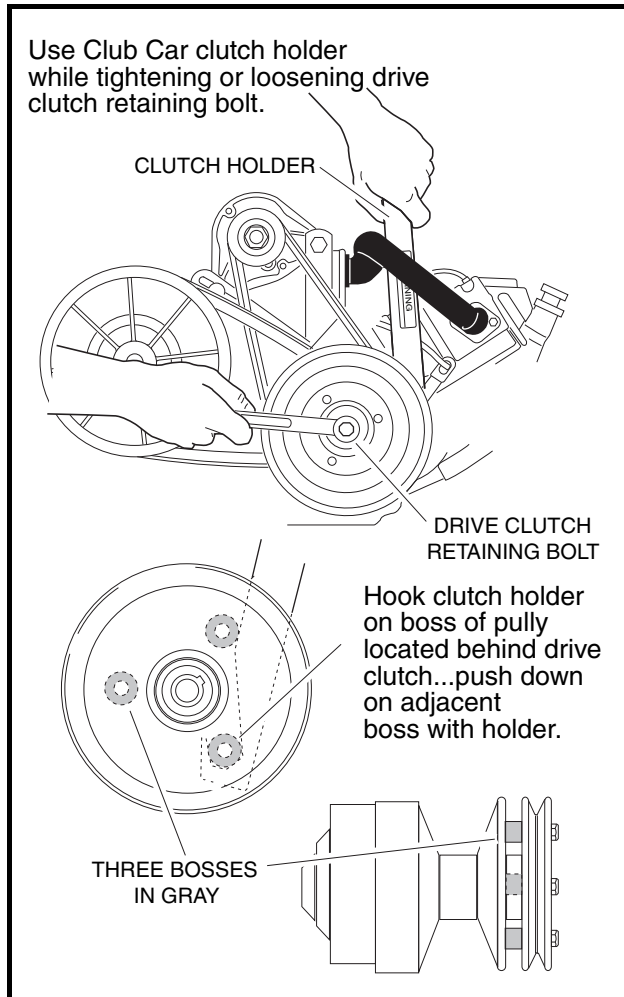
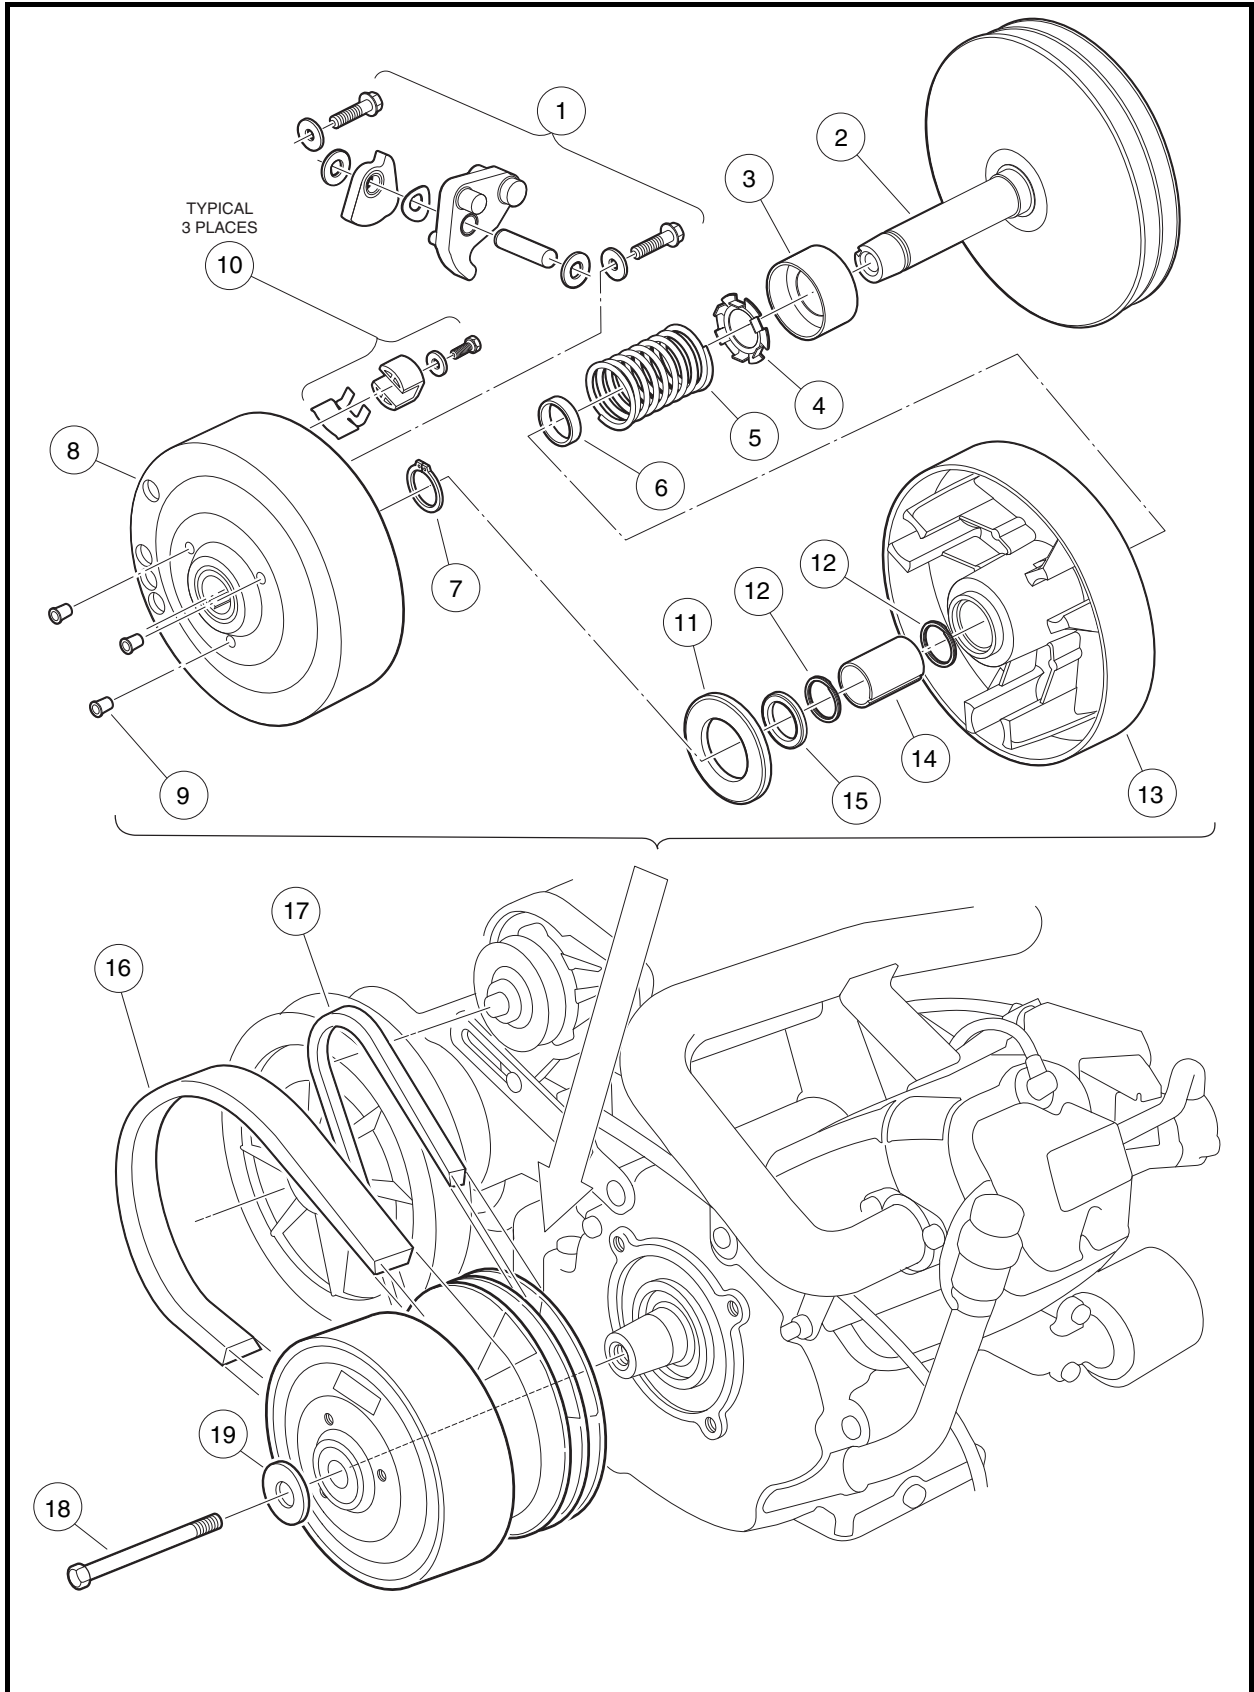
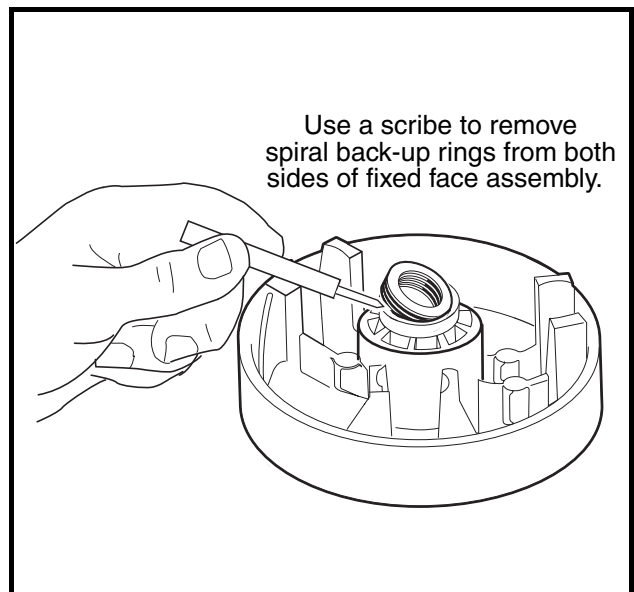
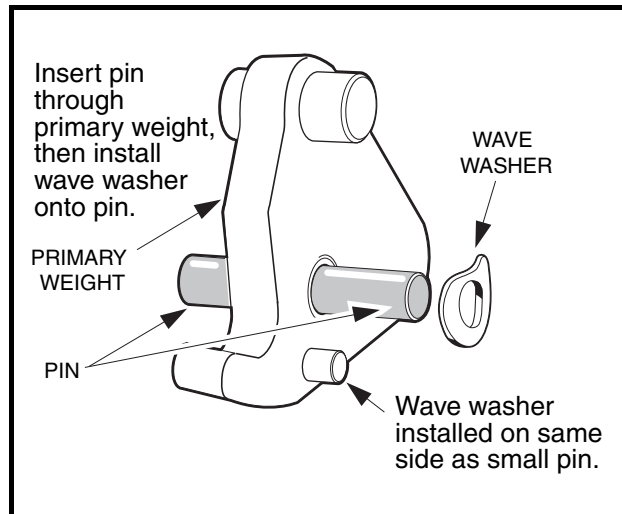

Figure 17-3 Loosen Retaining Bolt
Figure 17-7 Drive Clutch Assembly
Figure 17-11 Spiral Back-up Rings
Figure 17-12 Install Pin and Washer
3. If cleaning both clutches does not solve the problem, disassemble and thoroughly clean all parts in the drive clutch. Be sure to clean the plastic drive buttons (10) (**Figure 17-7, Page 17-8**).
5. Remove the drive clutch retaining bolt (18) and flat washer (19) (**Figure 17-7, Page 17-8**). **See also Figure 17-3, Page 17-5. See following NOTE.**
- Use only a dry cloth to lightly wipe the shaft (2) of the fixed face assembly (Figure 17-7, Page 17-8). Do not use a brush or steel wool. These will damage the surface of the shaft.
2. Remove the clutch drive hub (8) (Figure 17-7, Page 17-8).
- 2.1. Remove the three plastic plugs (9) from the clutch puller attachment holes in the drive hub (8) (Figure 17-7, Page 17-8).
- 2.4. Unscrew the hub puller center bolt from the clutch, forcing the stop nut up against the puller plate, lifting the drive hub (8) from the fixed face shaft (2) (Figure 17-7, Page 17-8).
3. Remove the thrust washer (11) from the moveable face (13).
- 5.3. Remove the plastic washers, weights and wave washer from the pins. Before removing, note the orientations of the wave washer and of the primary and secondary weights to one another (**Figure 17-12, Page 17-10 and Figure 17-13, Page 17-10**). Retain all parts.
6. Remove the retaining ring (7) from the shaft of the fixed face assembly (2) and slide the moveable face (13) off the shaft (**Figure 17-7, Page 17-8**). **See following NOTE.**
**NOTE:** *When the moveable face is removed from the hub of the fixed face, the spiral back-up rings (12) must be replaced with new ones at time of reassembly (**Figure 17-7, Page 17-8**).*
7. Remove the spacer (6), spring (5) and retainer (4). The spring retainer (4) can be removed from the spring if necessary (**Figure 17-7, Page 17-8**).
9. Use a scribe or small pick to remove the spiral backup rings (12) from each end of the bore in the fixed face assembly (**Figure 17-7, Page 17-8**). **See also Figure 17-11, Page 17-9.** Discard the rings.
1. Inspect the idler bearing (3) for smooth rotation or seal damage (**Figure 17-7, Page 17-8**).
2. Inspect the bore of the moveable face assembly (13) for scarring or wear. The moveable face assembly must be replaced if the bore is worn to a diameter of 0.883-inch (22.4-mm) or larger (**Figure 17-7, Page 17-8**).
3. Inspect the steel shaft (2) on the fixed face assembly. There should be no noticeable wear anywhere on the shaft. Replace the shaft if it is worn, scratched, or damaged.
4. Inspect the thrust washer (11) for wear. If it is worn more than 0.030-inch (0.76-mm), turn it over or replace it with a new one.
5. Inspect the primary weights and the hub casting for wear. If the primary weights show signs they are touching the casting, the tips of the weights have worn beyond specification and they must be replaced (**Figure 17-12, Page 17-10**).
1. Press idler bearing (3) onto the shaft of the fixed face assembly (2). Press on the inner race of the bearing only. Make sure that the cup side of bearing is facing away from the fixed face (**Figure 17-7, Page 17-8**).
2. Use a needle nose pliers to install the spring retainer (4) onto the spring (5).
3. Install the spring (5) and retainer (4) into the cup of the idler bearing (3).
4. Install the spacer (6) onto the shaft of the fixed face.
5. Install a new spiral backup ring (12) in each end of the bore of the moveable face assembly (13).
6. Install the moveable face assembly (13) onto the shaft of the fixed face assembly (2). **See following CAUTION.**
- 6.2. Install the retaining ring (7) (**Figure 17-7, Page 17-8**).
7. Install the primary weights on the mounting pins (**Figure 17-12, Page 17-10**).
8. Install a wave washer on each mounting pin. Make sure that the concave side of the washer faces the side of the primary weight with the small guide pin protruding from it (**Figure 17-12, Page 17-10**).
12. Install the 1/4-20 screws and washers (1) and tighten them to 10 ft-lb (13 N·m) (**Figure 17-7, Page 17-8**).
16. Install the thrust washer (11) onto the moveable face assembly (**Figure 17-7, Page 17-8**).
17. Install the hub assembly (8) on the moveable face assembly and align the match marks made before disassembling the clutch. Press the hub assembly on by hand.
18. Replace the three plastic plugs (9) into the hole protectors (**Figure 17-7, Page 17-8**).